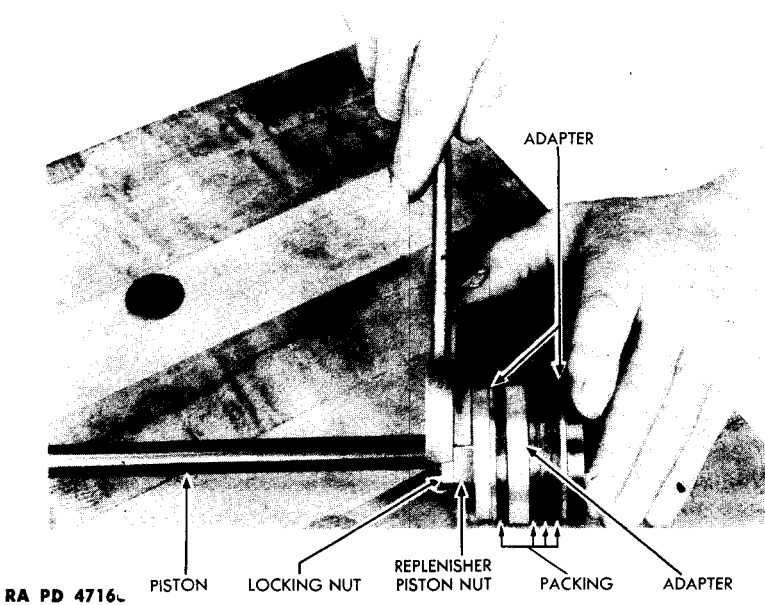

Figure 92 – Disassembly of Replenisher Piston
d. Disassemble Piston Assembly. Hold replenisher piston nut and unscrew locking nut (fig. 92). Slide locking nut off piston. Manually unscrew replenisher nut and slide it off piston. In the order named, slide adapter, packing, adapter, three packings, and adapter off piston (fig. 90).
a. Assemble Replenisher Piston in Replenisher Tube. All parts of replenisher are to be thoroughly cleaned with SOLVENT, dry-cleaning, and dried with compressed air (if available) or CLOTH, wiping. In order, slide thin adapter, three packings, and thick adapter on rod end of piston and slide them up against piston head (fig. 92). Then install the above assembly in replenisher tube with rod section of piston first inserted in flange end of tube (fig. 90). Grasp rod section of piston and pull piston with its assembled parts backward through the tube until thick adapter (fig. 92) is flush with guard end of tube (fig. 90). Slide another packing and second thin adapter onto rod section of piston, then screw piston nut tightly onto piston. Install locking nut onto piston and screw locking nut tightly onto piston nut.